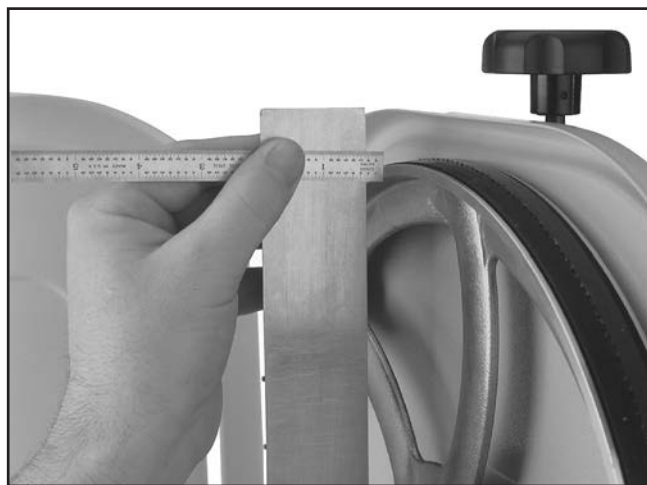

Figure 55. Example of measuring the distance to shim the wheel to be coplanar.
3. With straightedge touching both rims of wheel that does not need to be adjusted, measure the distance away from the other wheel with a fine ruler, as shown in **Figure 55**. The distance measured with the ruler is the distance this wheel must be shimmed.